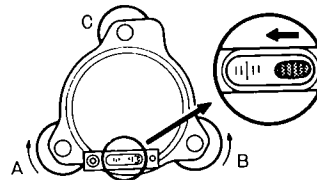

Fig. 13.1
- 1) See Figs. 13.1 and 13.2 for relation between bubble movement and rotation of the leveling screws.